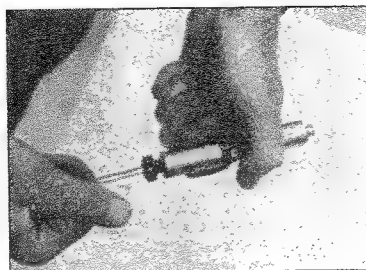

Figure 13
3. Remove end cap with allen wrench (conventional or T-shaped). CAUTION: Cap is under spring pressure. Point in safe direction. Try to keep end cap covered with your hand. (Fig. 13)